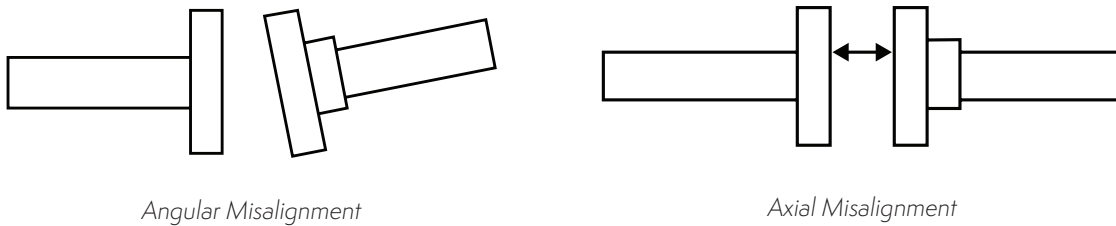

Figure 22 – Checking Angular and Axial Misalignment
6. Check angular misalignment with a dial indicator on *gear drive side*, as shown in **Figure 22**.